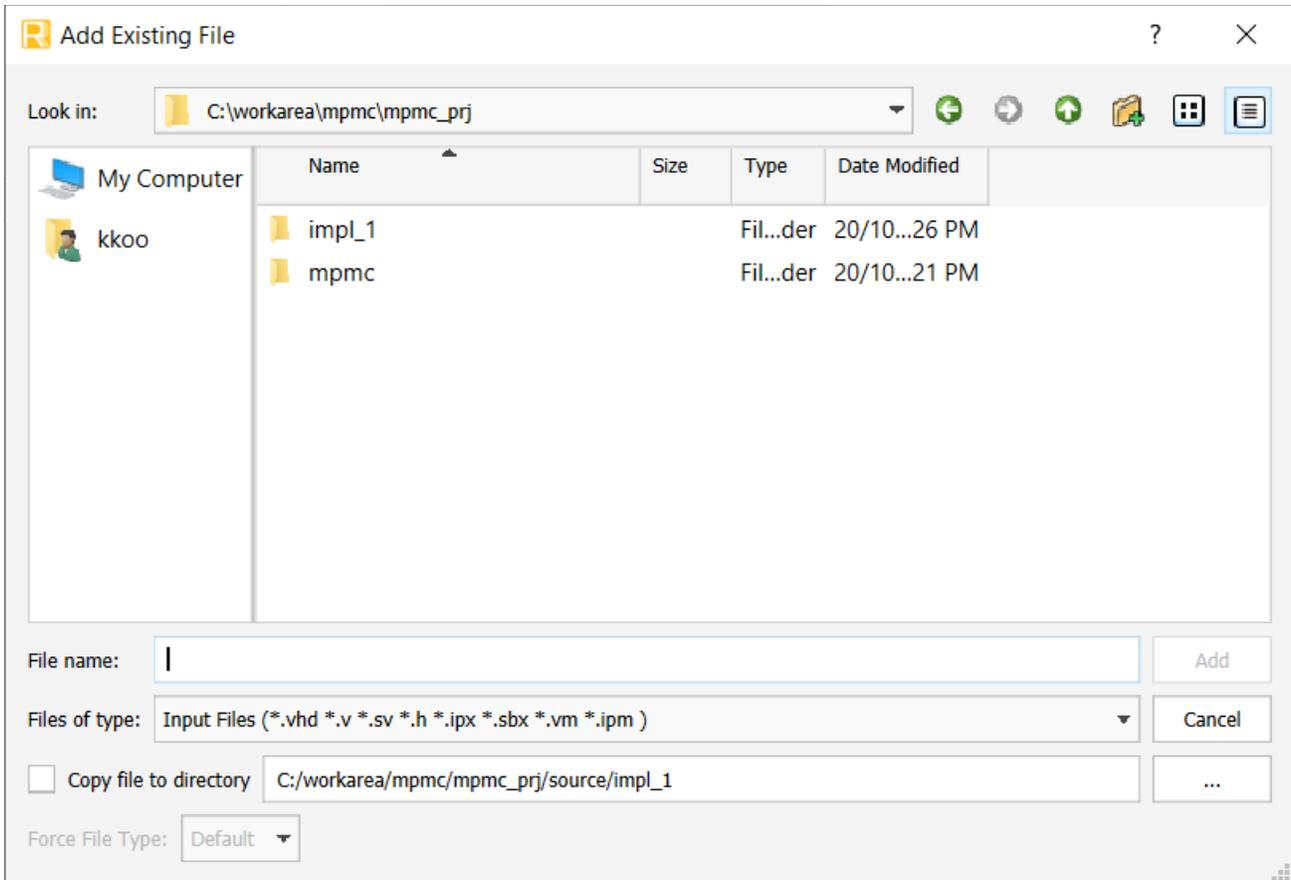

Figure 6.8. Adding Existing File
2. To add the top-level example design file to the project, right-click on **Input Files** and select **Add > Existing File**. The **Add Existing File** dialog box opens, as shown in Figure 6.8. Navigate to the eval directory and select the eval_top.sv file. Click **Add**.